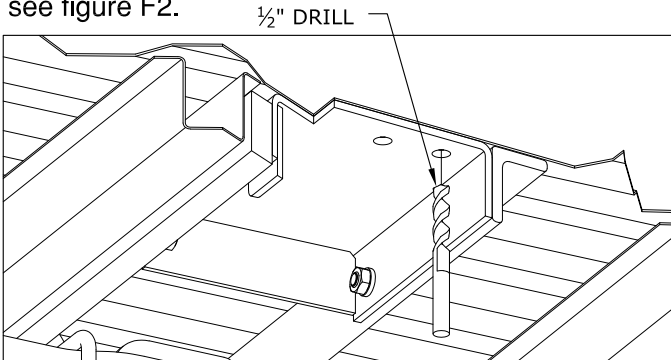

Figure F2: Cut away view from under the bed
1. **Drill the holes.** From under the bed use a drill and a $\frac{1}{2}$ " drill bit to drill through the bed using the four holes that match up with a low rib in the truck as a guide. Remove any burrs created during the drilling process, see figure F2.